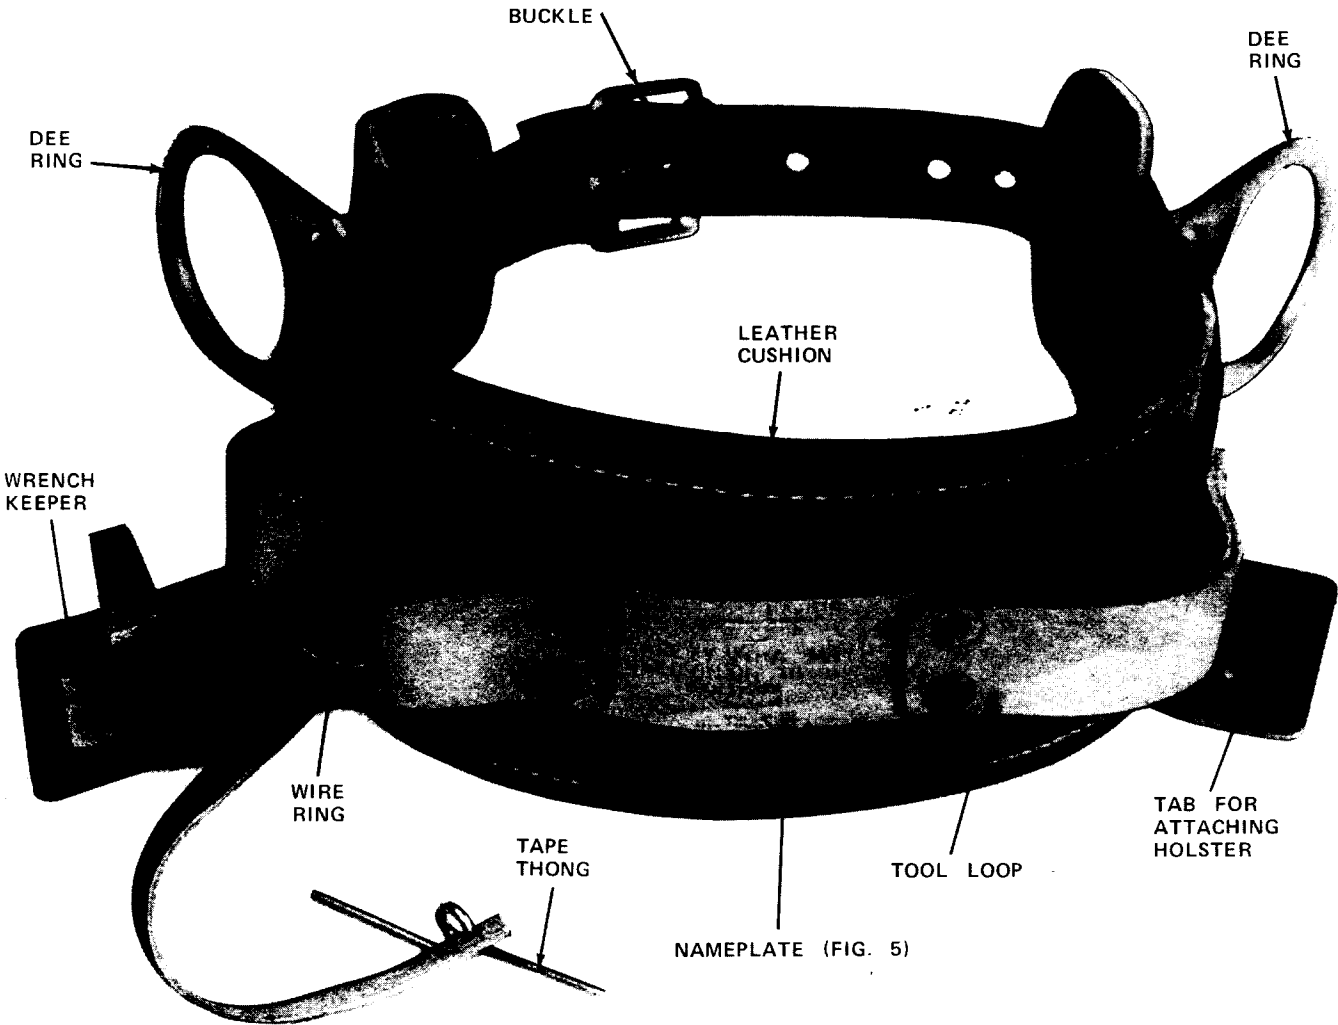

Fig. 1—D Body Belt (Right Belt Shown)
2.01 ♦The D and E body belts have all strength members made of six-ply neoprene-impregnated nylon fabric and are equipped with a leather or leather-substitute cushion, a buckle, Dee rings (for attachment of a safety strap), tape thong, wrench keeper, loops to accommodate tools, and provisions for attaching a holster. The D body belt is illustrated in Fig. 1. The E body belt is identical to the D body belt except it is equipped with four wire rings for use with suspenders or a waist belt.
2.02 These belts are available as a "left" or "right" belt in the sizes, dimensions, and weights listed in Table A. The "right" belt is shown in Fig. 1; for a "left" belt, the position of the buckle, wrench keeper, and tape thong are reversed.